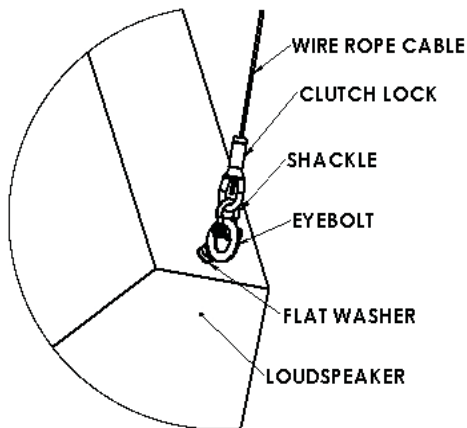

Figure 1
Step 2: Attach clutch lock end of the adjustable tilt cable kit to the eyebolt using the provided shackle (Figure 1).